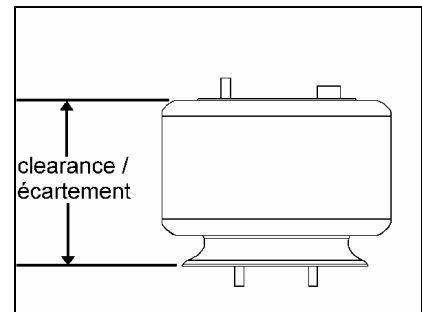

FIGURE 4 : CLEARANCE MEASUREMENT
5. With the uprights safely supported, lower the vehicle until the air spring clearance is $11\frac{11}{16} \pm \frac{1}{4}$ " (297±6 mm). Measurement should be taken from under the upper air spring support to top of the lower air spring support (figure 4).
5. With the upright safely supported, lower the vehicle until the air spring clearance is $11 \frac{11}{16} \pm \frac{1}{4}$ " (297±6 mm). Measurement should be taken from under the upper air spring support to top of the lower air spring support (figure 4).